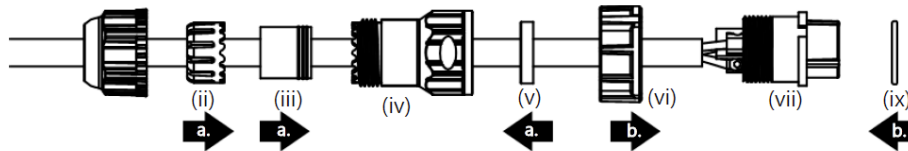

Figure 47: Steps 3 and 4
- Fit the gasket (v), sealing (iii), and clip (ii) onto the sealing body (iv) (Figure 47).
- Fit the lock (vi) and o-ring (ix) onto the housing (vii) (Figure 47).